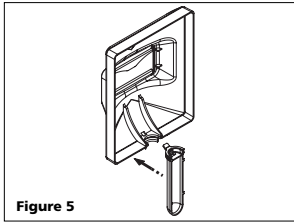

Figure 5
3. To attach the handle, place shield on a flat surface and press handle into place (See Figure 5).